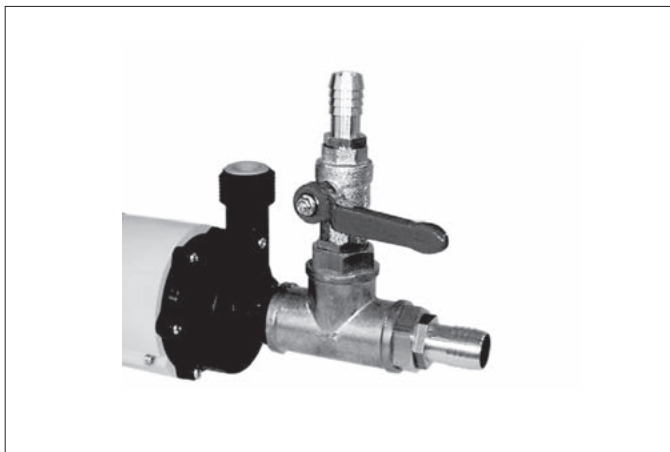

Fig.22 Filler connection
- ▶ Fit a filler connection to the intake side of the cold water pump. See Fig.22.